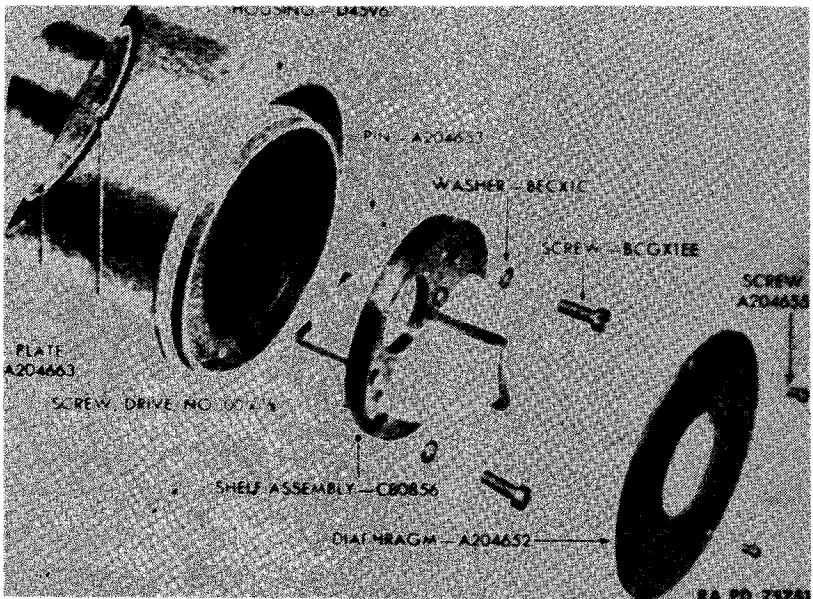
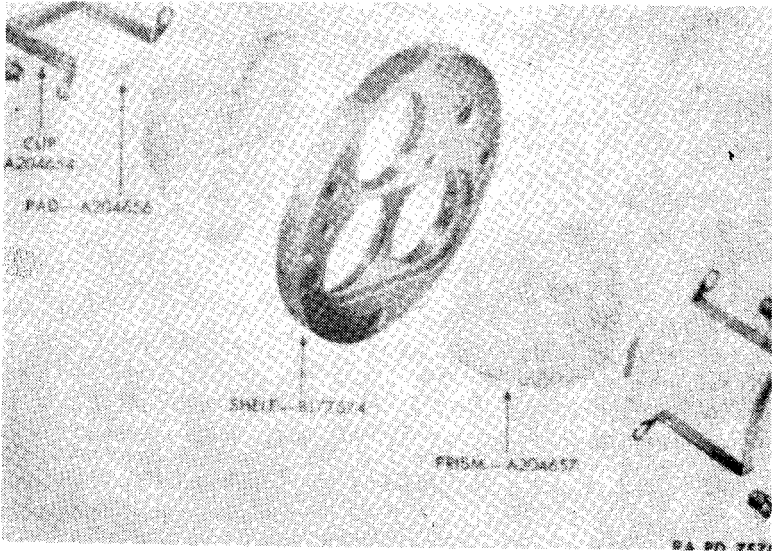

Figure 11 - Observation Telescope M48-Prism Housing Assembly C80855 Partially Disassembled
Figure 12-Observation Telescope M48-Prism Shelf Assembly C80856 Disassembled
a. Record the serial number from the name plate. The name plate is located on the housing (figs. 11 and 17).
(3) Loosen screws A204655 (fig. 11) that hold the diaphragm, and remove diaphragm (fig. 11).
(4) Remove screws BCGX1EE and washers that hold the prism shelf assembly and lift out the shelf assembly.
**d. Disassembly of Prism Shelf Assembly.** Remove the screws (fig. 12) that hold the prism clips in place and remove the clips with